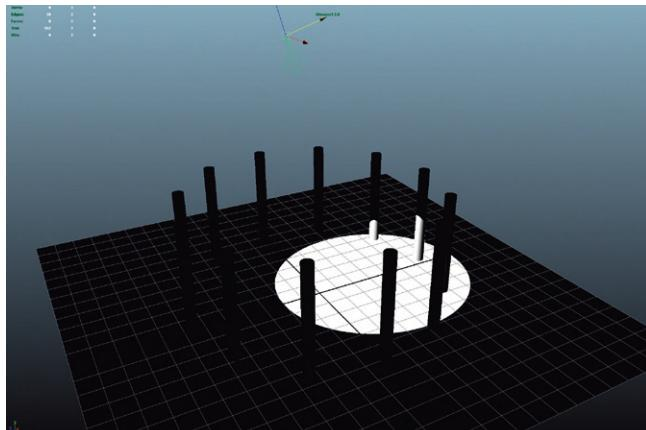
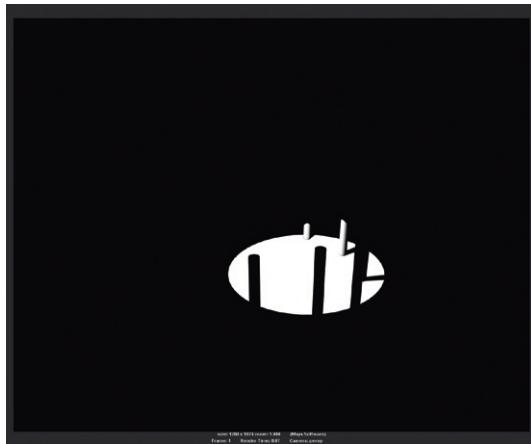

FIG. 7.11 Using the Move and Rotate Tools to position and aim the instrument.
FIG 7.12 Render of the Spot Light as positioned in Fig. 7.11.
Step 12: Use the Rotate Tool and Move Tool to move the Spot Light up in space and aim it down toward the set (Fig. 7.11). Render (Fig. 7.12).